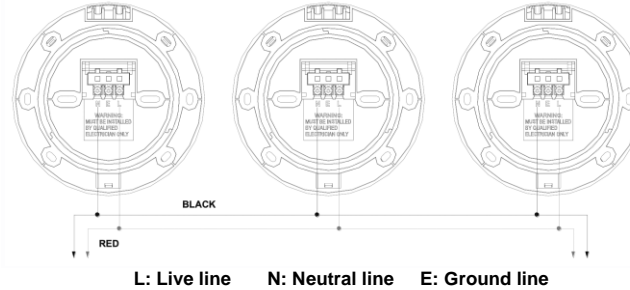

Fig. 5 Mains wiring terminals and mounting slots
4. Terminate the wiring as shown in Fig. 5 to the L and N conductors.